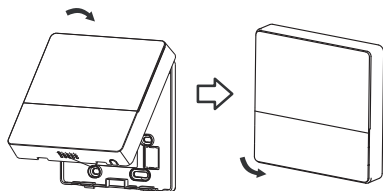

Fig. 3-12
- After adjusting the upper case and then buckle the upper case; avoid clamping the wiring during installation. (Fig. 3-12)